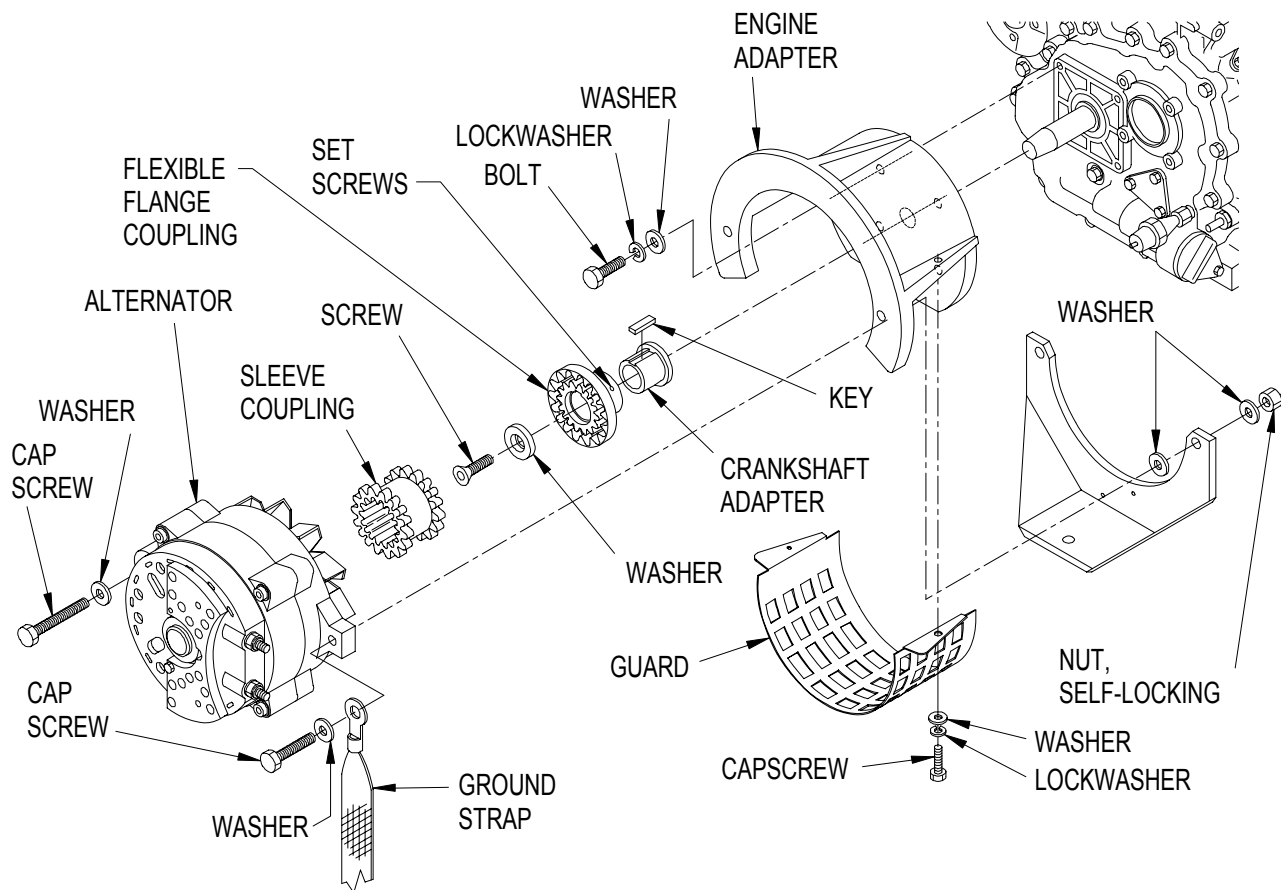

Figure 5-41. DC Alternator Installation (MEP-501A)
- (1) Shut down generator set.
- (2) Remove control panel assembly, refer to paragraph 4.20.b.
- (3) Remove capscrews, lockwashers, washers, and guard from engine adapter (Figure 5-41).
- (4) Tag and disconnect electrical leads from alternator, support rear of alternator, then remove self-locking nuts with washers and capscrews with washers and ground strap securing alternator to engine adapter. Carefully remove alternator and flexible sleeve coupling.
- (1) If crankshaft adapter (Figure 5-41) was removed, clean engine crankshaft with isopropyl alcohol (Item 12, Appendix E) to remove old retaining compound and let dry. Otherwise proceed to step (4).
- (2) Apply retaining compound (Item 7, Appendix E) to the surface of engine crankshaft, and position new crankshaft adapter on crankshaft.
- (3) Apply locking compound (Item 6, Appendix E) to threads of new screw and install screw with countersunk washer to secure crankshaft adapter. Torque screw to 22 lbs-ft (29.8 Nm).
- (4) Install new machine key in slot of crankshaft adapter and position flexible flange coupling on adapter. Do not tighten setscrews.
- (5) Install engine adapter on engine with washers, lockwashers, and capscrews.
- (6) Install alternator with flexible sleeve coupling. Ensure that external teeth on flexible sleeve coupling engage the internal teeth of flexible flange couplings. Then secure alternator to engine adapter with capscrews, washers, and new self-locking nuts. Ensure ground strap is positioned under right side capscrew and washer. Torque self-locking nuts to 31 lbs-ft (42 Nm). Connect electrical leads and remove tags.
- (7) Apply locking compound (Item 6, Appendix E) to threads of setscrews for flexible flange coupling on crankshaft, pull coupling toward alternator until a gap of $0.625 + 0.031 - 0$ in. ($15.875 + 0.787 - 0$ mm) is obtained between the two flexible flange couplings, and torque setscrews to 50 lbs-in. (5.6 Nm).
- (8) Install guard with washers, lockwashers, and capscrews.
- (9) Install control panel, refer to paragraph 4.20.d.